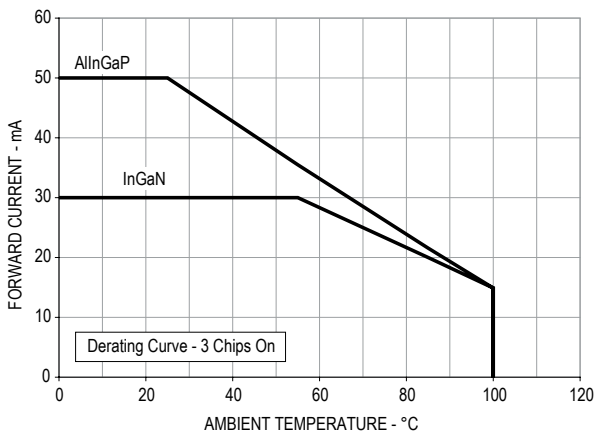

Figure 5a. Maximum forward current vs. ambient temperature. Derated based on $T_{jMAX} = 125^{\circ}C$, $R_{\theta JA} = 600^{\circ}C/W$ (3 chip on).
1. Derate Linearly as shown in Figure 5a & 5b.